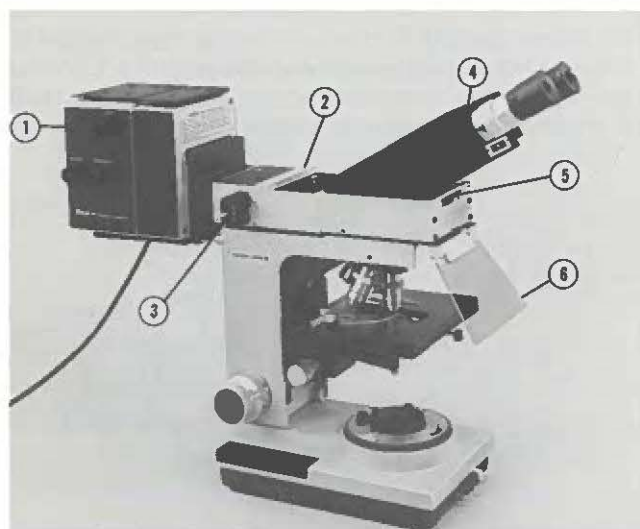

FIGURE 5-1 BALPLAN INCIDENT-FLUORESCENCE MICROSCOPE
5.1 Installation Figure 5-1 shows the BALPLAN microscope with the incident-fluorescence system installed.